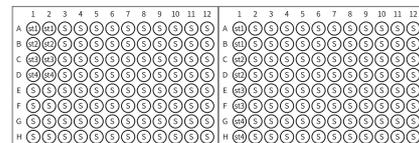

Figure 2. Suggested plate layouts
- Add 100  $\mu$ l of each dilution of the Standard curve and 100  $\mu$ l of each sample to wells. Seal plate with the adhesive film provided and lightly tap the frame to ensure proper mixing. Incubate for 1 hour at 37°C. Adhesive film improperly used can cause sample cross-contamination (droplets can adhere to the inner surface). Evaporation can occur due to improper sealing. Use the samples prepared in 5.1 Preparation Step. See Figure 2 below for examples of plate layout: